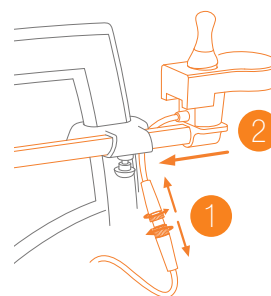

Figure 11: Disconnect the cable (1) and slide the joystick controller into the holder (2).
- a. Before attaching the joystick controller to the frame, ensure that the cable is disconnected. Disconnect the cable by loosening the metal rings (1). Slide the joystick controller through the hole in the holder (2). Ensure that the cable runs between the frame and the controller as shown in **Figure 11**.